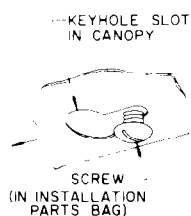

FIG. 3
6. Remove the hood and start all four screws in the center of the narrow neck of the keyhole slot marked on the cabinet bottom. See figure 3.